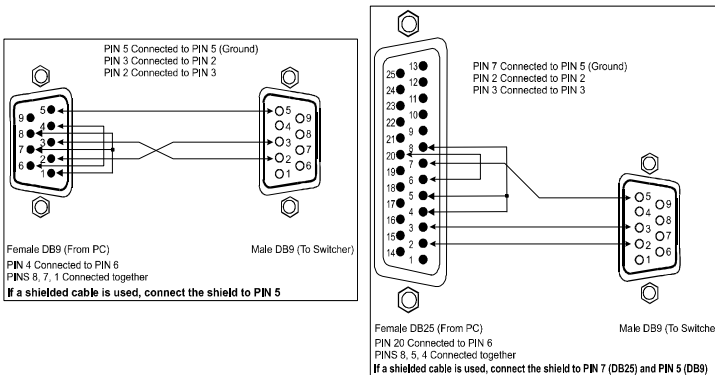

Figure 4: Connecting a PC without using a Null-modem Adapter
- Connect the RS-232 DB9 port on your PC to the RS-232 DB9 rear panel port on the Master **VS-5x5** unit, as Figure 4 illustrates (depending on whether the PC has a 9-pin or 25-pin connector)